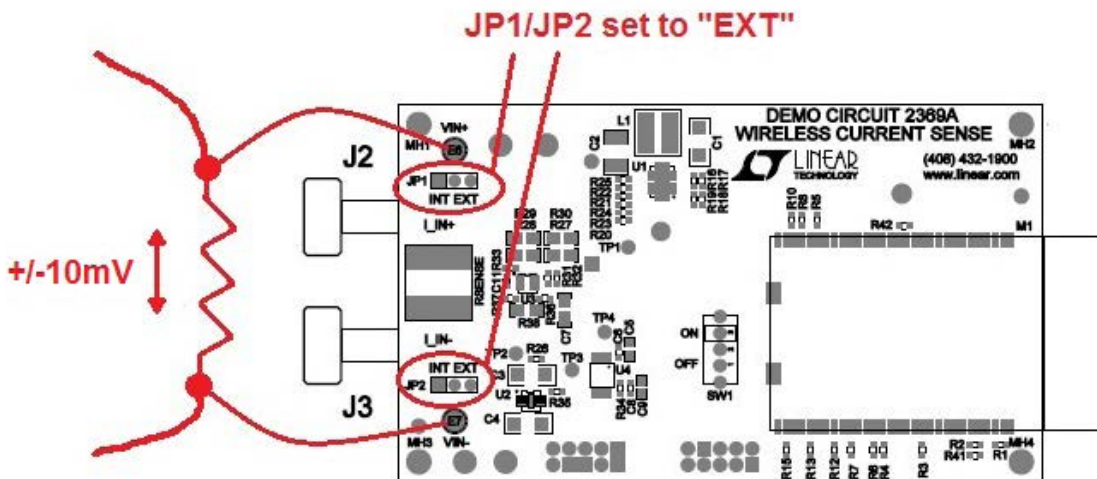

Figure 2. DC2369A Connections and Jumpers for External Sense Resistor
3. Alternatively, DC2369A can be used to measure the voltage across an external sense resistor. In this case, set jumpers JP1 and JP2 to EXT, and connect the voltage to be measured to the turrets labeled V_{IN}^+ and V_{IN}^- . The preconfigured DC2369A firmware and software will still assume a ±10mV full-scale input voltage and report that as a ±1A full-scale current. See Figure 2.